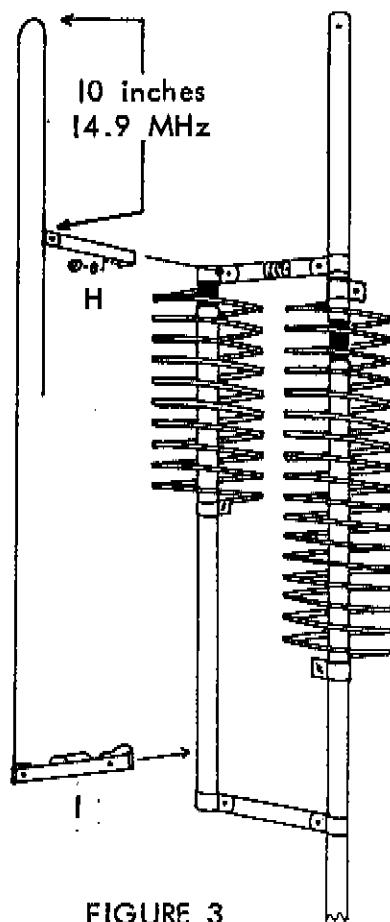

FIGURE 3
6. Take up the assembled 7.6 MHz coil on capacitor unit (D) and slide the end of tube E that has the plastic insulator up through the lower coil clamp and into the upper coil clamp of the assembly. Use a split-lock washer and #10 hex nut to fasten the upper clamp securely around the plastic insulator. The upper edge of the coil clamp should be flush with the edge of the plastic insulator. Use a split-lock washer and a wing nut to secure the lower coil clamp around the metal part of section E--not too tightly, however, for this clamp too may have to be moved during the adjustment procedure.
7. Place the remaining clamp of the completed 7.6 MHz assembly around section B immediately above the upper clamp of the 4.6 MHz coil (C) and secure firmly using a split-lock washer and a #10 hex nut.
10. Refer to figure 3 and slide tuning rod G through clamp H and double clamp and capacitor unit I as shown. Finger tighten each clamp using the hardware already on the small end of the double clamp and an assembled #8 split-lock washer and hex nut for the large end of the double clamp to position unit I around tube E. Place the hole at the end of clamp H over the #10 bolt coming through the upper coil clamp of the 7.6 MHz unit and secure using a #10 split-lock washer and hex nut.